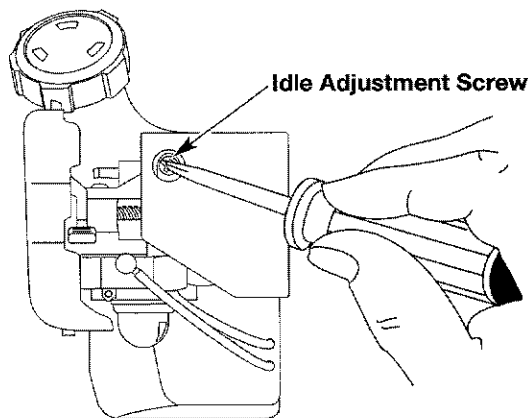

Fig. 50
The idle speed of the engine is adjustable. An idle adjustment screw is reached through a hole in the top of the engine cover (Fig 50).
2. Release the throttle trigger and let the engine idle. If the engine stops, insert a small phillips or flat blade screwdriver into the hole in the engine cover (Fig. 50). Turn the idle speed screw in, clockwise, 1/8 of a turn at a time (as needed) until the engine idles smoothly.